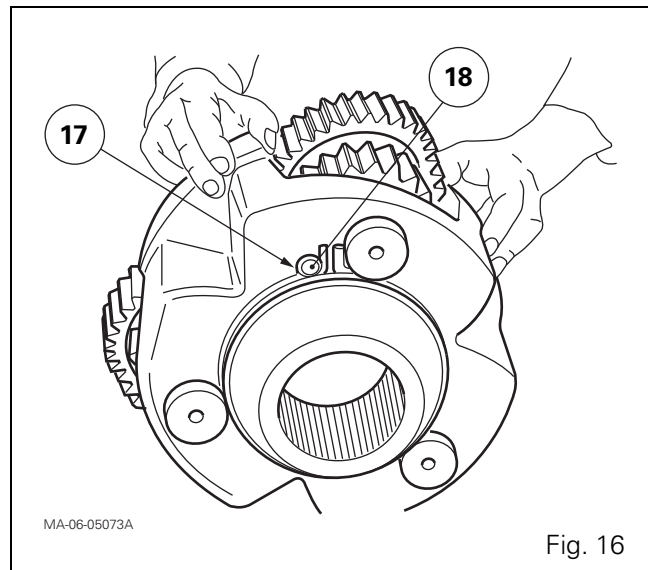
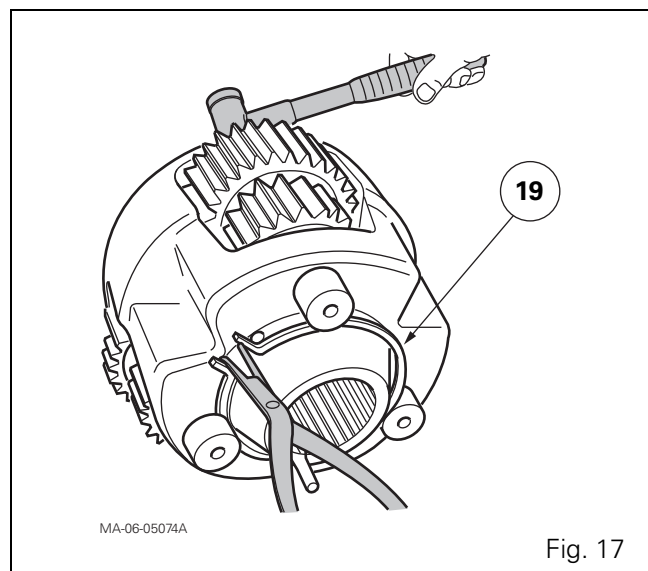

Fig. 16
Fig. 17
52. Remove (Fig. 16, Fig. 17):
- The screw (18);
- the spacer (17);
- the circlip (19) by opening its two ends.